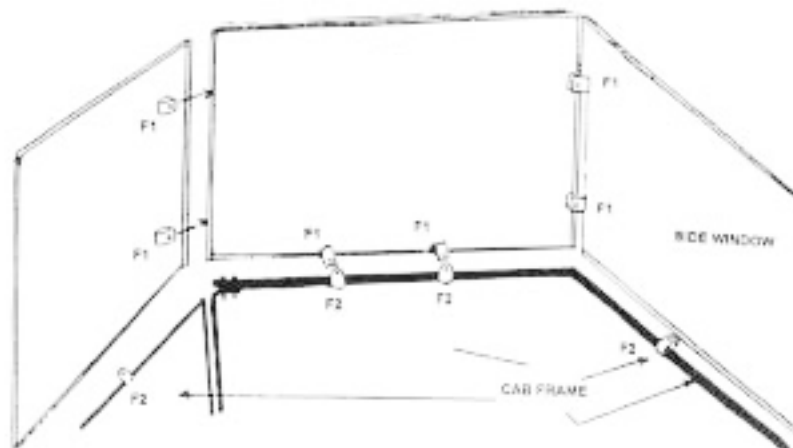

Figure 4
11. Assemble 3 windows by cutting slits close to rod inside of hem. Using F-1 clips and 3/16" x 3/4" bolts attach the two side windows to the center windshield. See figure 4.